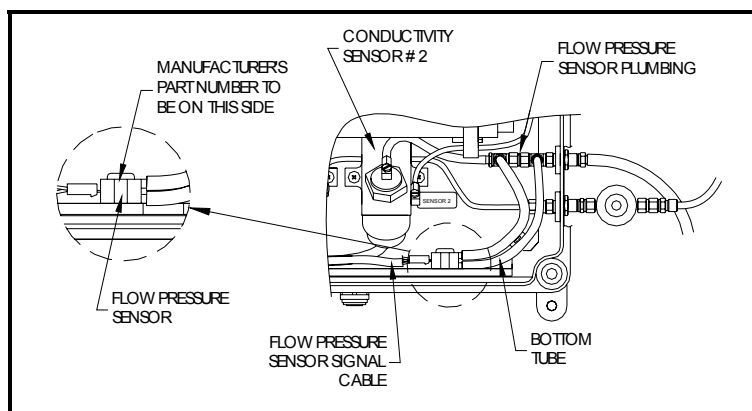

Figure 9. Flow-Pressure Sensor Assembly
7. See Figure 9. Remove the water line from the barb fitting on conductivity sensor 2 to the plumbing assembly.
9. **Caution: There is an o-ring in the kit which needs to be in the black sealing washer against the case wall.** Slide the new flow pressure sensor assembly plumbing into the case and through the case wall. See Figure 9.